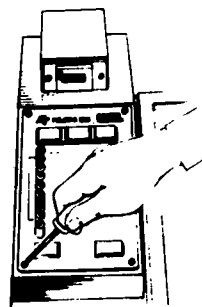

Figure 7-3. REMOVE CONTROL PANEL.
2. See Figure 7-3. Remove the four screws which secure the control panel faceplate to the washer.